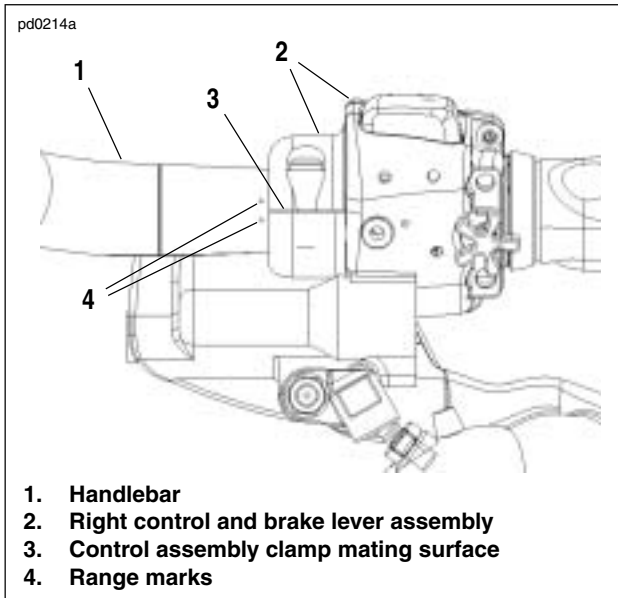

Figure 7-4. Right Handlebar Control Assembly (Bottom View)
2. See Figure 7-4. Range marks (4) are located on bottom of handlebar adjacent to brake lever clamp assembly. Rotate right control and brake master cylinder assembly (2) **slightly** for most comfortable position. Make sure control assembly is positioned so that clamp mating surface (3) is located in area between range marks.